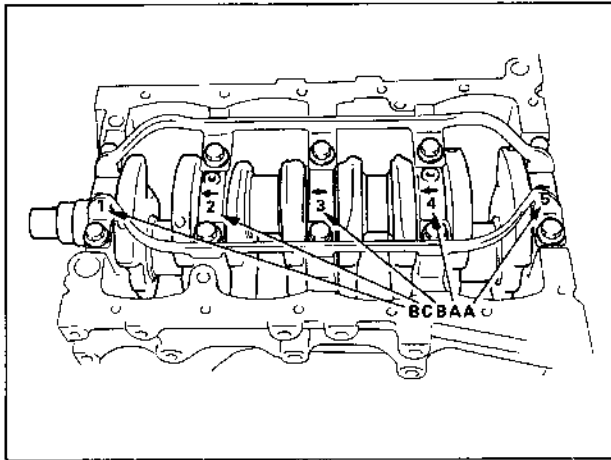

Fig. 6A-146 Stamped Alphabets on Cylinder Block
For example, in Fig. 6A-146, the first (leftmost) alphabet "B" indicates that cap bore dia. of bearing cap "1" is within 49.006 – 49.012 mm, and the fifth (rightmost) alphabet "A" indicates that cap bore dia. of cap "5" is within 49.000 – 49.006 mm.
3. There are five kinds of standard bearings differing in thickness. To distinguish them, they are painted in following colors at the position as indicated in Fig. 6A-147. Each color indicates following thickness at the center of bearing.